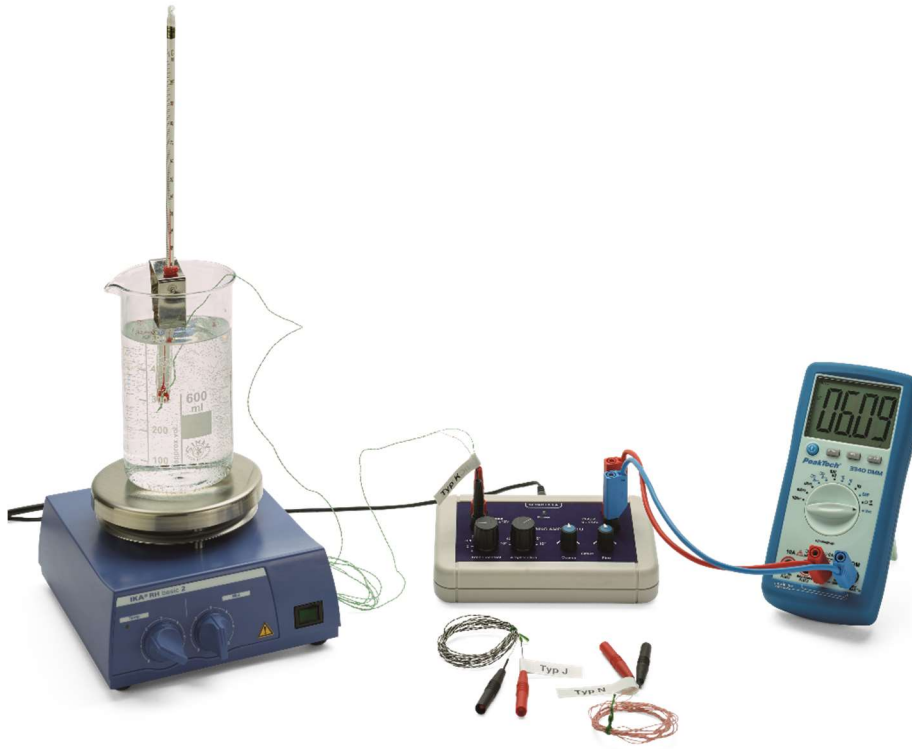

Fig. 1: Experiment set-up
- Set up the experiment as in Fig. 1.